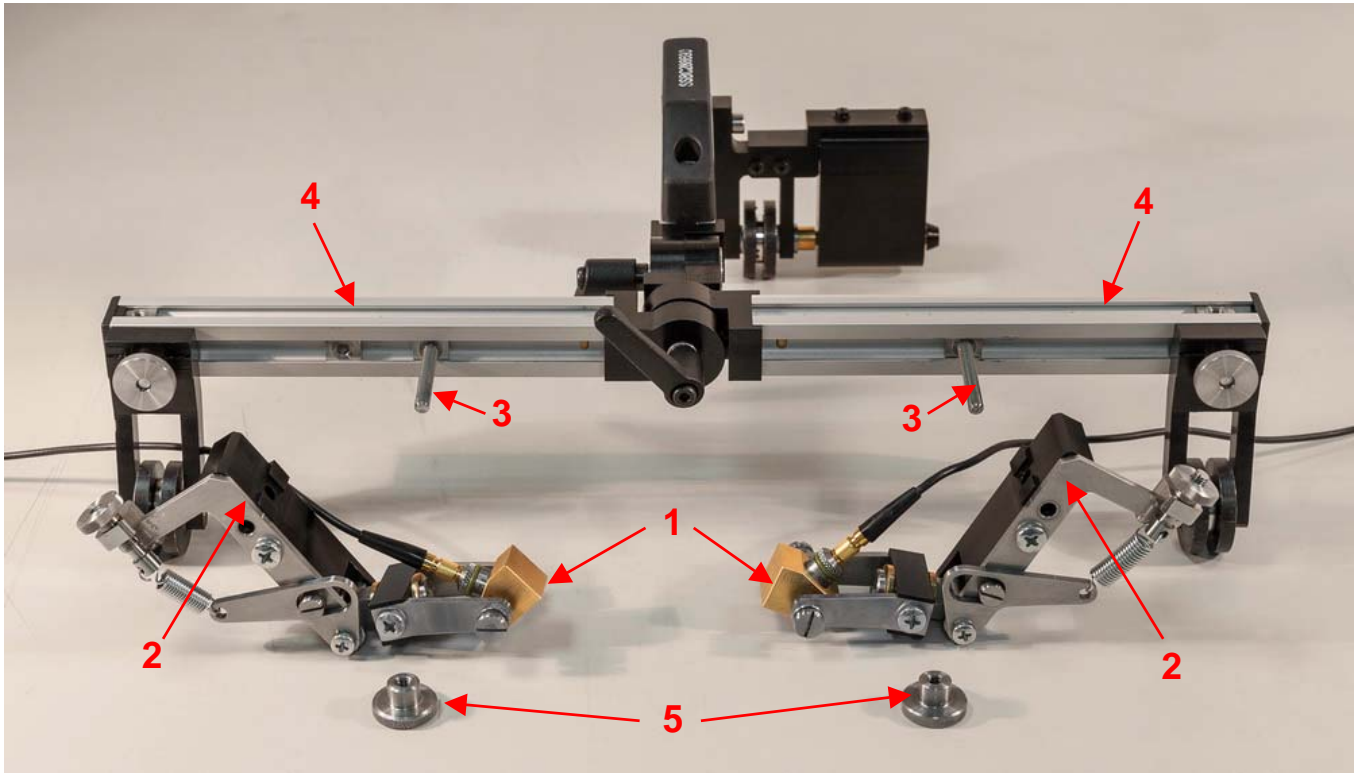

Fig. 1
1. Install probes [1] into the Probe-Holders [2] as it is shown on the Fig.1